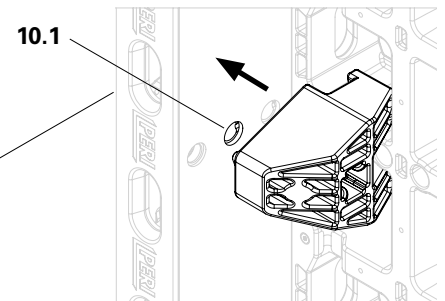

Fig. B5.15a
3. Insert the DUO corner connector (23.1) into the frame strut of the DMP multi panel. (Fig. B5.15a)